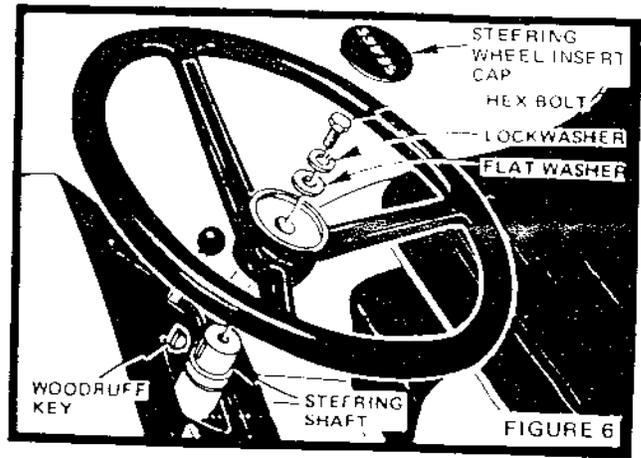

FIGURE 6
- a. Remove Hex Bolt, Lockwasher and Flat Washer from Steering Shaft (Fig. 6).
- c. Fasten with Flat Washer, Lockwasher and Hex Bolt (Fig. 6). Tighten securely.